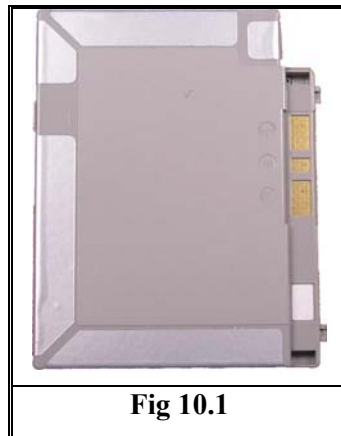

Fig 10.1
- Check if the battery pads (*Fig. 10.1*) are mechanical damaged, dirty or oxidized. Replace the battery if necessary.